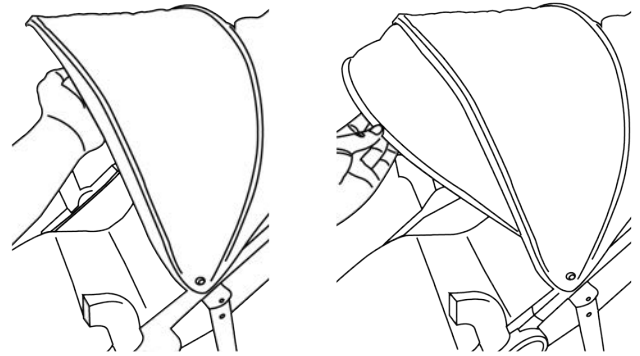

Fig. 5
9. To open the sun visor: grab front edge of sun visor under canopy and pull down and rotate forward until fully extended (Fig. 5).